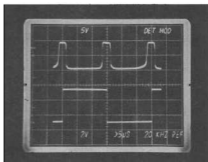

FIGURE 6-2
- (1) Set A203R80 fully ccw (counter-clockwise).
- (2) Set counter to Band B, MANUAL SELECT, and 01.0 GHz PRESET FREQUENCY.
- (3) Jumper A202TP1 to TP3. Ground A202TP5.
- (4) Connect oscilloscope Channel A to A202U1 pin 9, and Channel B to A202U1 pin 4.
- (5) Adjust A202R89 for a symmetrical waveform as shown in the upper trace of Figure 6-2. (All pulses in the train should be of equal duration.)
- (6) If necessary, select a new value for A203R93 so the leading and trailing edges of the 20 kHz reference (lower trace) occur in the center of the detected modulation pulses. (If A203R93 is changed, re-adjust A202R89 as stated in (5) above.)